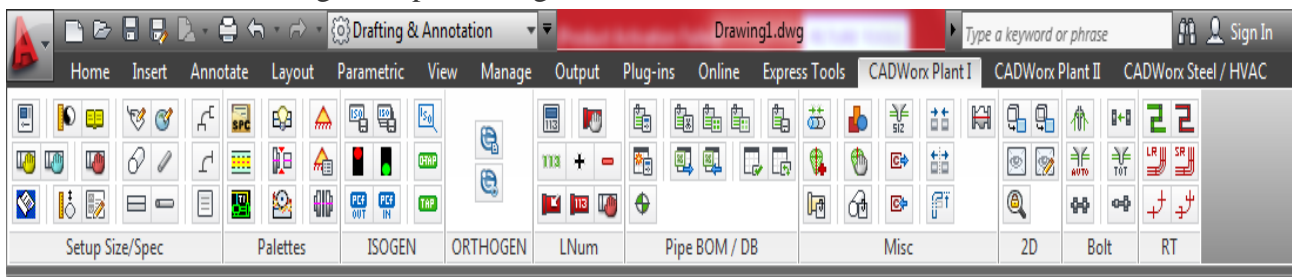

Fig: 3
02. Depending on the version of AutoCAD and the version of CADWorx running on your system, its interface could look different. The layout for CADWorx looks the same. We have a ribbon along the top: refer fig:3